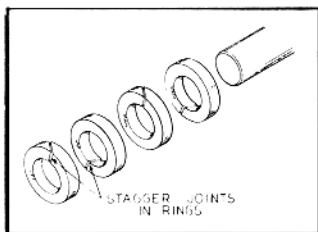

Fig. 8
4. Apply grease to each ring of packing and install each ring separately using the packing follower to push it in place. *Be sure to install each ring so that the joints are staggered, that is, not lapping over or near the joint of the preceding ring (figure 8).*